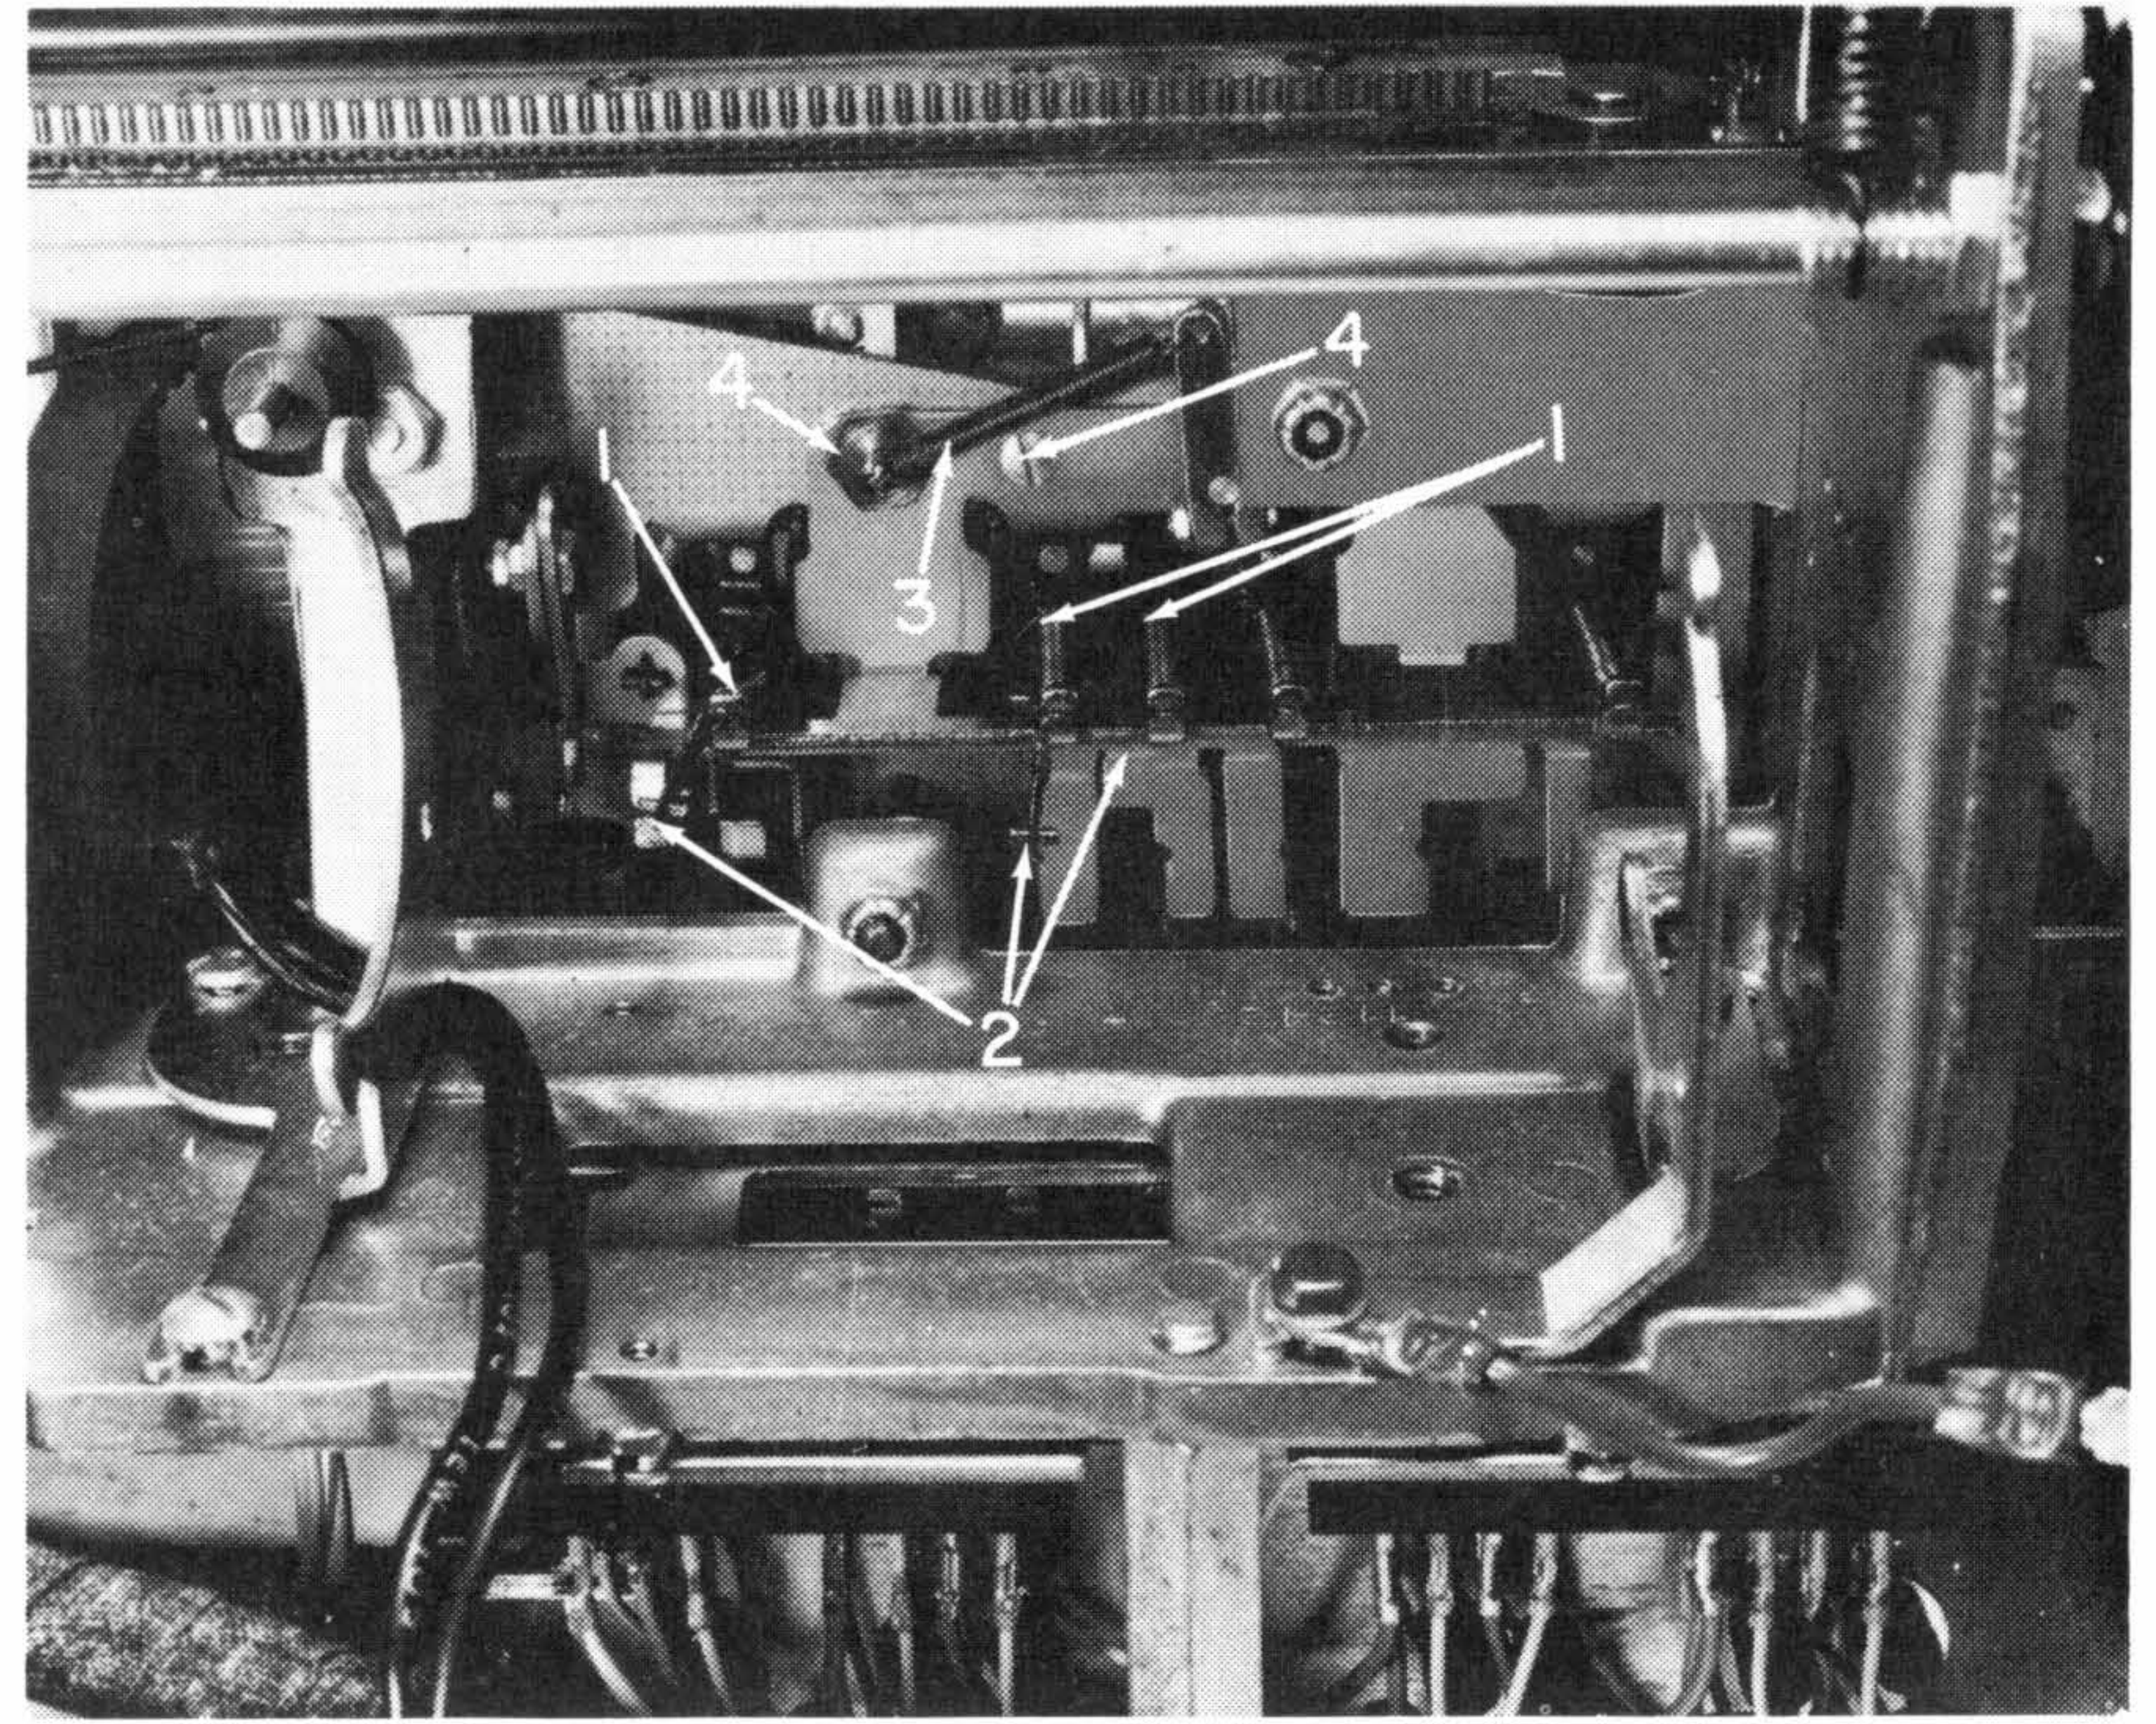

Figure 23. Rotare Selection Differential Removal
9. Remove the rotate-latch springs (#1, Figure 23).
10. Pull out the rotate links (#2, Figure 23).
11. Remove the check-latch spring (#3, Figure 23).
12. Remove the guide-bracket mounting stud and screw (#4, Figure 23).